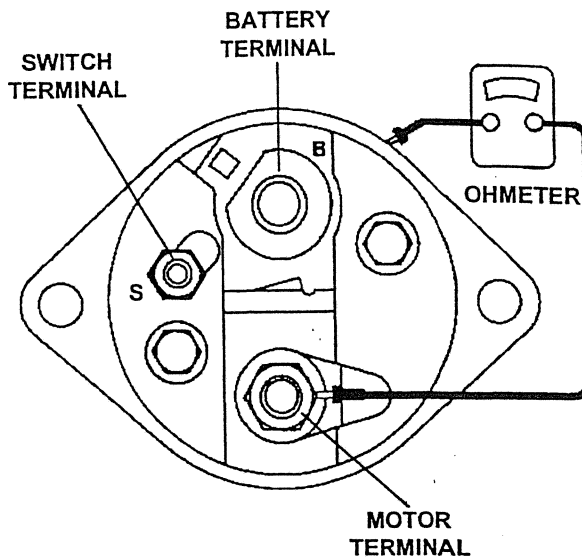

FIGURE 9. SOLENOID TERMINALS
## Component Electrical Testing (Figures 9 and 10)
1. Using a suitable ohmmeter, check the windings of the solenoid assembly (1) for continuity as follows:
- a. Check the resistance of the solenoid pull-in and hold-in windings in series by measuring the resistance between the motor terminal (see Figure 9) and the solenoid case. The resistance should be approximately 0.95 ohms for 12-volt starters and approximately 1.75 ohms for 24-volt starters.
2. Check the armature (13) as follows for shorts, opens or grounds using suitable test equipment and instruments (test lamp must be 110 volts or less).
3. Check frame and field assembly (19) for grounds or opens using a test lamp (110 volts max.) or ohmmeter, as follows: